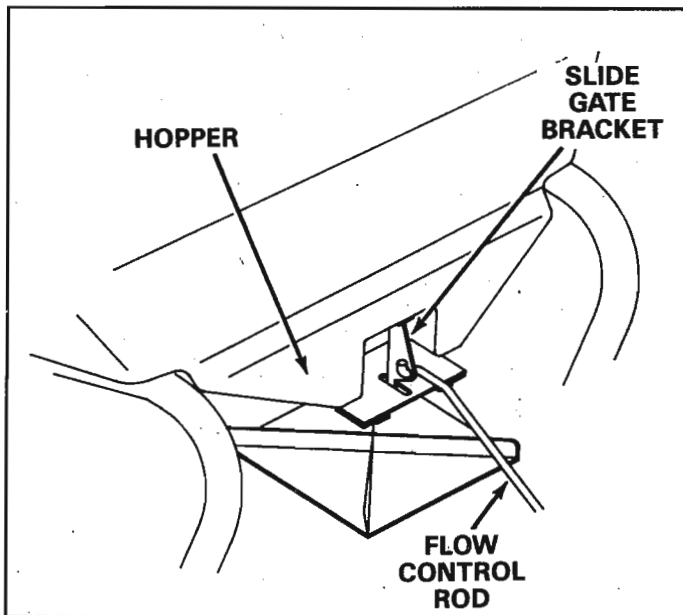

FIGURE 13
- Hook free end of flow control rod through hole in slide gate bracket located near bottom of hopper. See figure 13.